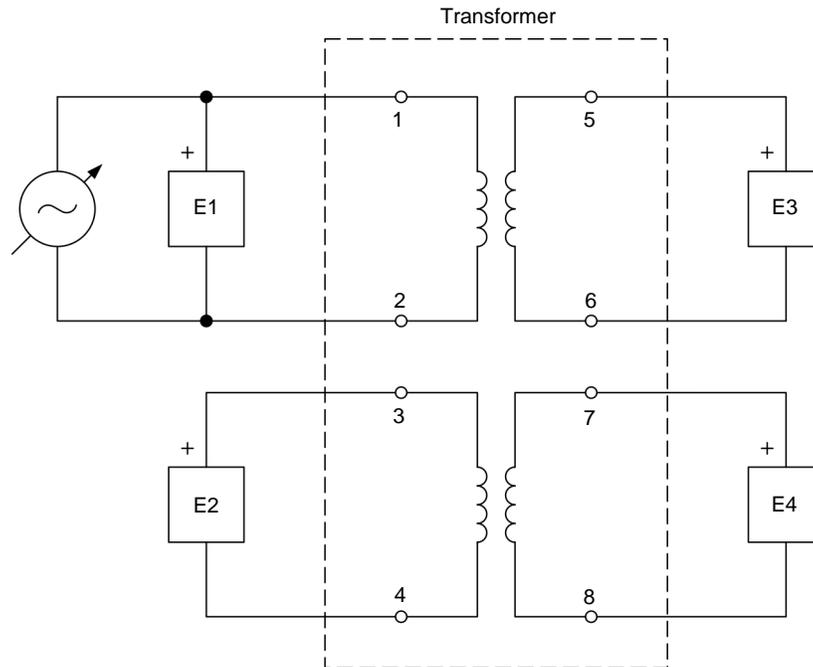

Figure 6. Circuit for measuring the voltage induced across each winding of the transformer when the ac power source is connected to winding 1-2.
11. Connect the equipment as shown in Figure 6.